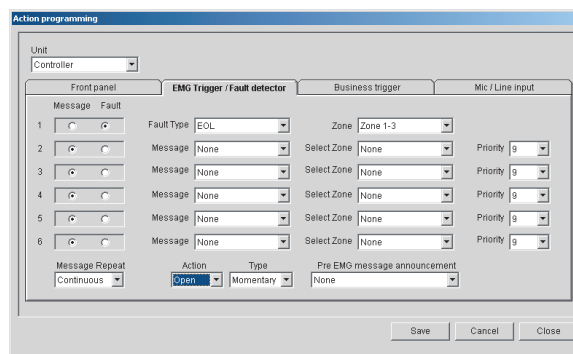

figure 14.4 Action programming window in configuration program.
- 7 Set the Action to Open and Type to Momentary. See figure 14.4 for an example.